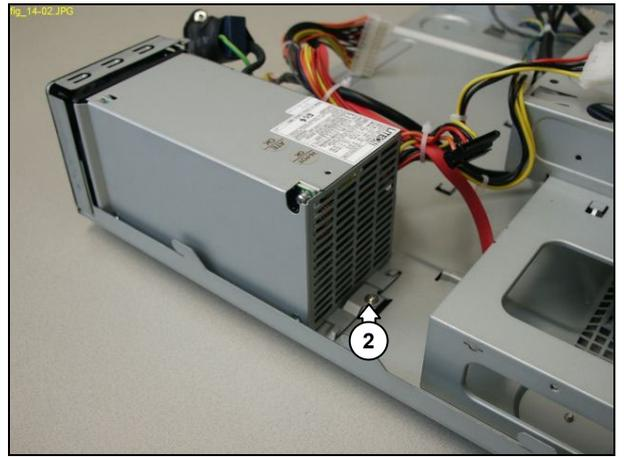

Figure 12.13-2
9. Remove the mounting screw (2) from the PSU. See Figure 12.13-2.
5. Remove the mounting screw (2) from the PSU. See Figure 12.13-2.